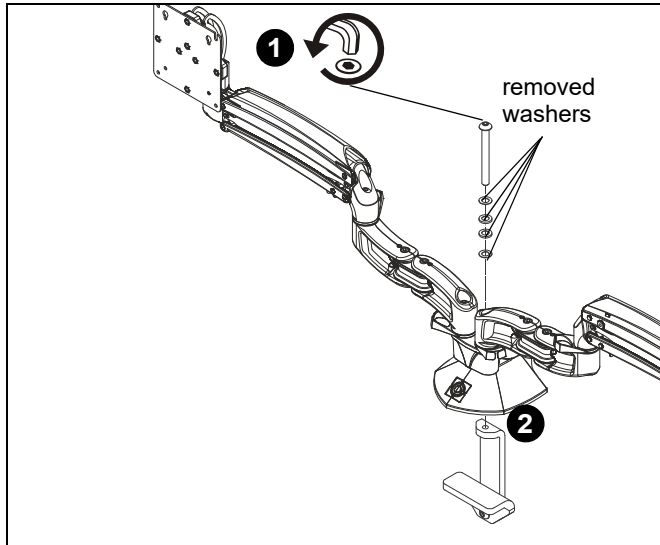

Figure 5
1. Remove desk clamp from mount by loosening button head cap screw until clamp is completely disengaged from the bolt. (See Figure 5)
2. Maneuver clamp so that it is totally removed from desk mount. (See Figure 5)